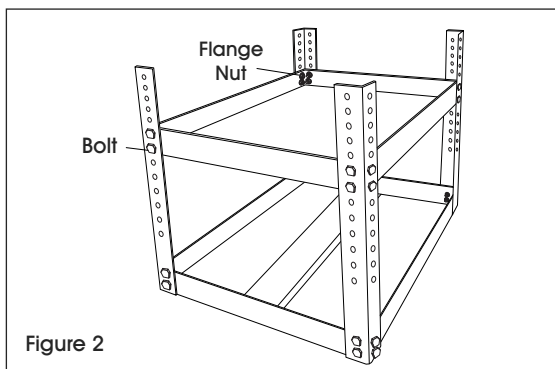

Figure 2
4. Place lower shelf inside of legs and attach using four bolts and four flange nuts on each leg. Do not tighten. (See Figure 2)